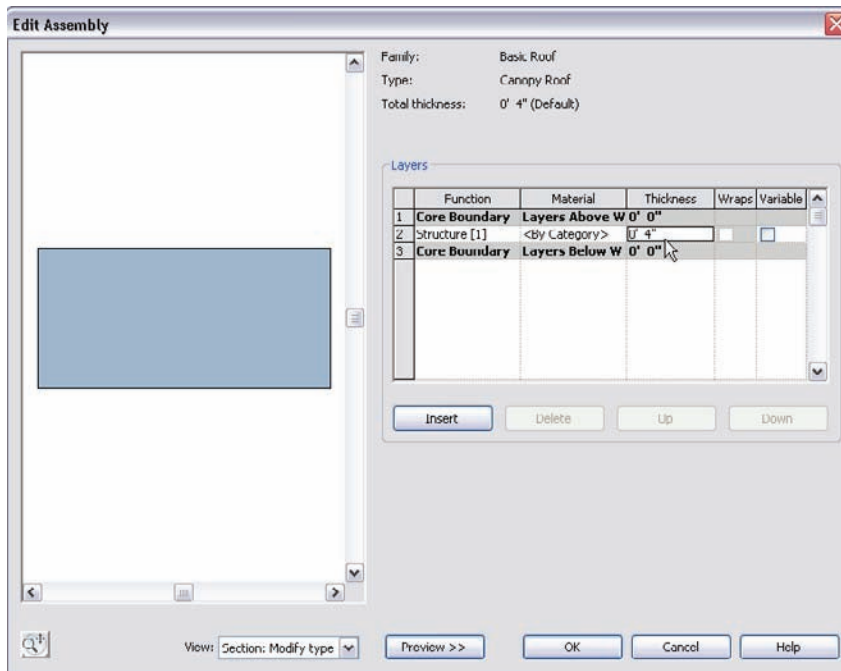

FIGURE 7.52 Changing the thickness of the canopy roof
- In the Edit Assembly dialog box, change the structure thickness to 4" (100mm), as shown in Figure 7.52.